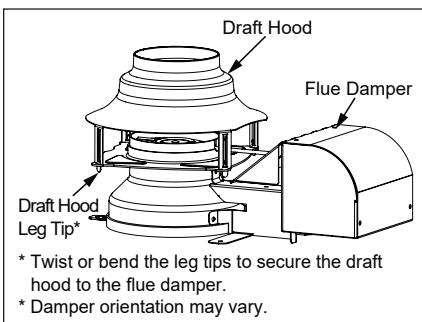

Figure 29 - Install the new draft hood.
**1** Install the new draft hood by aligning the legs and inserting them into the slots on the flue damper's flange (see Figure 29). Do not reuse the draft hood from the old water heater, but rather use the new one that came with your new water heater.